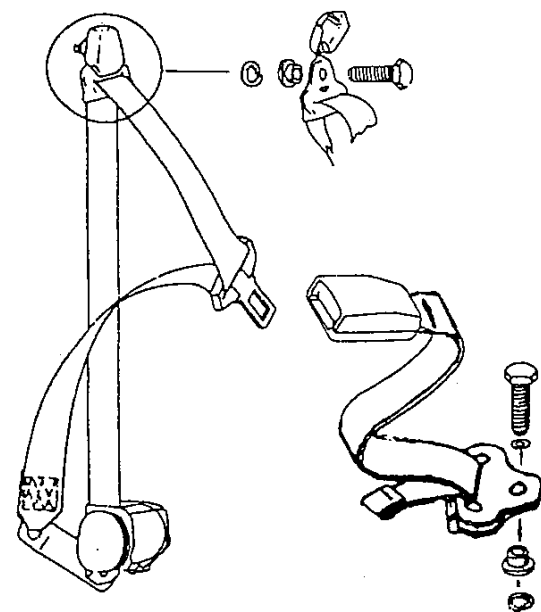
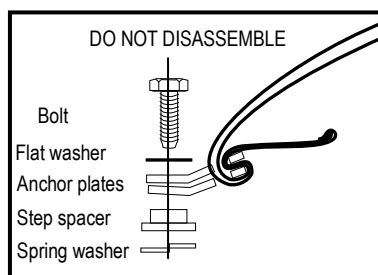

FIGURE 1
FIGURE 3
- When the inertia reel is removed from the box it will have a certain amount of webbing drawn from the spool and will be locked by a limit cam. Do not remove the limit cam until inertia reel has been mounted in correct position. Refer to 'Retractor Angles' section on the 'Information On Unlocking The Retractor' instruction sheet to determine your retractors correct mounting position. Mount the inertia reel and lower anchor as per figure 3. Remove and dispose of the 'limit cam' and then slowly move the sash guide assembly into position and mount it with the aid of the fittings provided, as shown in figure 1.
- Assemble the sash guide and fittings as shown in figure 1.